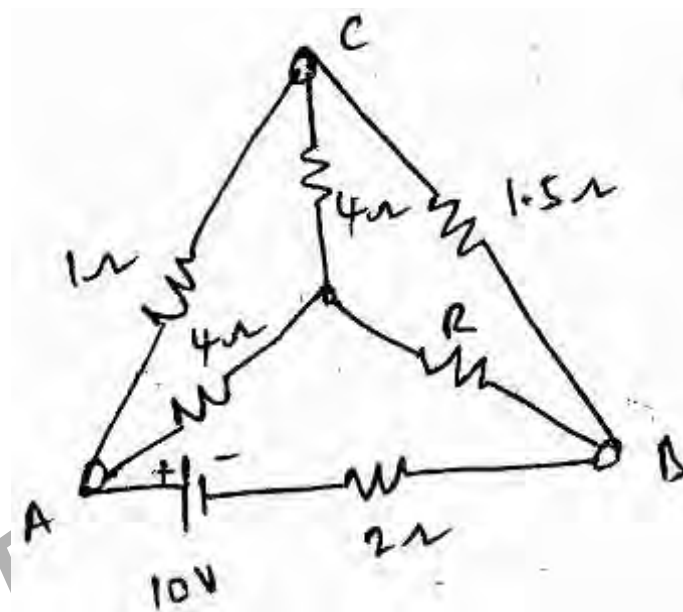

Figure 1
1. Calculate the unknown resistance R and the current flowing through it when the current in the branch OC is zero. (figure 1) [16]